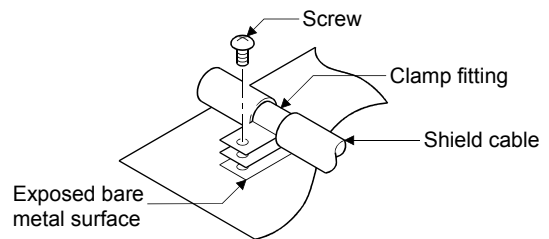

Figure 7.2 Shield grounding (Correct example)
- 2) Ground the exposed shield section to spacious area on the control panel. A clamp can be used as shown in Figure 7.2.